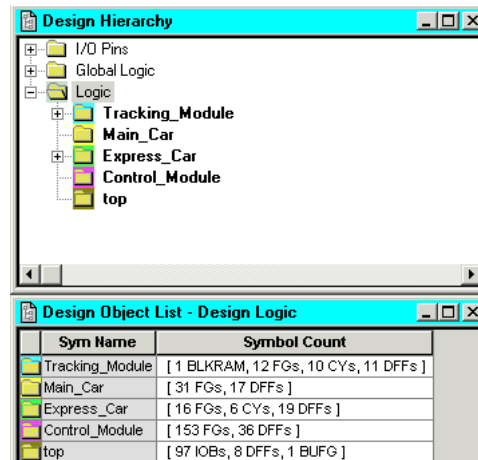

Figure 2: Design Hierarchy
2. In the Hierarchy Window, expand the Logic Folder. This displays the hierarchy for the design, as shown in Figure 2. Also in Figure 2, notice that the Design Object List window displays a list of components that are used in each piece of hierarchy.
3. Locate each Logic Group within the Hierarchy window. Typically, the uppermost levels of hierarchy will be the Logic Groups (refer to the "Identifying Logic Groups" section for more information). In Figure 2, there is a top-level and four Logic Groups. Each of the four Logic Groups will be assigned to an Area Group using PACE.